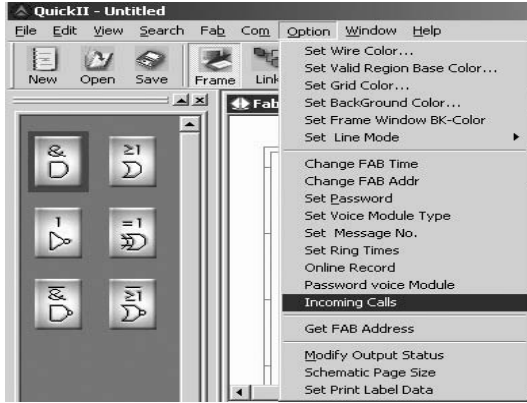

Fig.5.8-1
1) Firstly connect FAB to a PC, and then click “Option→Incoming call”, as shown in Fig.5.8-1.